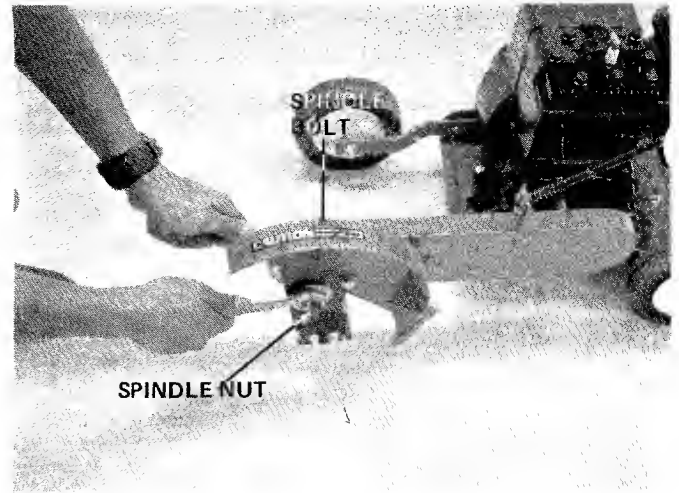

FIGURE 13
**Blade Removal**— Hold head of spindle bolt with a 3/4" or adjustable wrench and remove spindle nut. See figure 13.